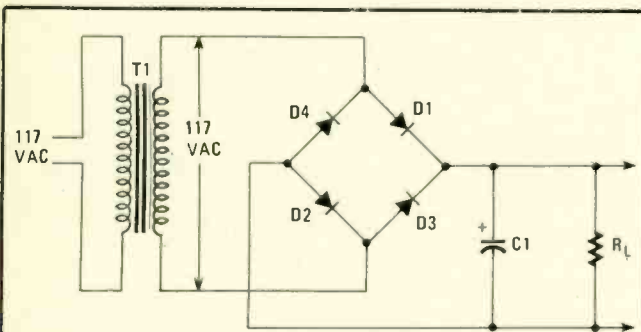

FIG. 5—CAPACITOR C_1 provides ripple voltage filtering so that R_L always has a DC voltage across it. Refer to text for discussion on PIV rating of C_1 .
The pulsating DC produced by a bridge rectifier is not usable in most electronic circuits. To produce nearly pure DC from the rectifier output a filter must be used. The simplest form of filter is a single capacitor in parallel across the load resistor. See Fig. 5. The operation of filters will be discussed shortly, but included here, because the filter capacitor affects rectifier ratings which is our real topic. For now, let's be content with the fact that the filter capacitor (C1) is charged to the peak of the AC waveform. That means that the bridge rectifier's output voltage under no load is $1.414 \times \text{volts}_{\text{rms}}$. It comes to 165.4-volts DC from a line isolation transformer T1 delivering 117-volts AC.
Some designers fail to recognize the true reverse-bias voltage in a filtered power supply. On one half-cycle, the diode will be forward-biased and current flows. On that half-cycle, the filter capacitor (C1 in Fig. 5) charges to peak positive voltage (i.e. $1.414 \times rms$). That voltage charge remains on C1. On the next half-cycle, the AC voltage reverse-biases the rectifier to the peak negative voltage (again, $1.414 \times rms$). That potential is added to the capacitor voltage to make the actual PIV twice normal peak voltage (i.e. $2 \times 1.414 rms = 2.83 rms$; or approximately 320.8 PIV). It would be wise to use diodes in the bridge circuit rated at a standard value of 400 PIV.
The simplest form of filter is a single capacitor connected in parallel with the rectifier output and the load. Such a filter is called a *brute-force* filter. An example is shown in Fig. 5.
Normally, we will have a ripple-factor percentage in mind as a design goal, and the load resistance is set by other requirements. We will want to rearrange Eqs. (6) and (7) to find the minimum value of capacitance (C1 in Fig. 5) required to do the job. Also, we will want our result in microfarads (μF), not Farads. To accomplish those goals we can rewrite Eqs. (6) and (7) into a final form:
Equations (8) and (9) are valid for power supplies using brute force filtering as diagrammed in Fig. 5 and operating from 60 Hz AC power lines. On 50-Hz power systems, increase the value of C1 by approximately 20 percent.
The filtering action has the effect of raising the average output voltage. The voltage produced by Fig. 5 will be as follows: